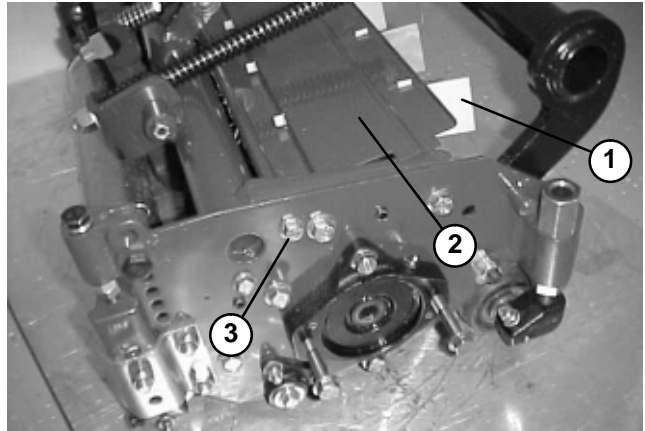

Figure 28
2. To adjust fins (Fig. 28), unhook and move front mounting tab to the straight ahead or angled position slot.